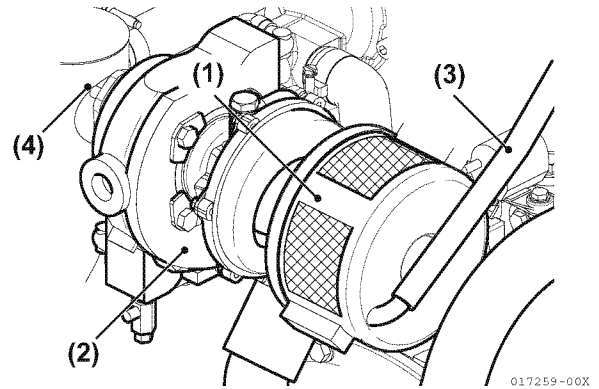

Figure 5-192
58. Install the turbocharger (for 4JH4-TE and 4JH4-HTE) (Figure 5-192).